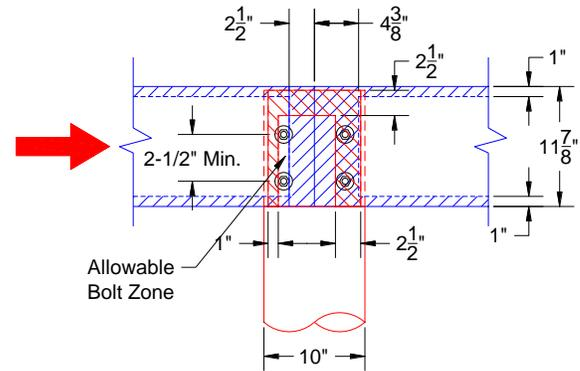

Figure 7: Lateral Design (Spliced Beam)
- In Figure 7, the lateral compression load coming from the left cannot be assumed to bear equally on all four bolts, because the members may not be in tight contact. In addition, the end and edge distances for the two bolts on the right do not meet the NDS® requirements. Therefore, only the left two bolts are effective for this loading condition. If a tension load were applied to the beam, the loaded edge distance from the bolts to the edge of the pile would not meet the minimum NDS® requirement, so the connection should not be assigned a capacity for a tension load on the beam.